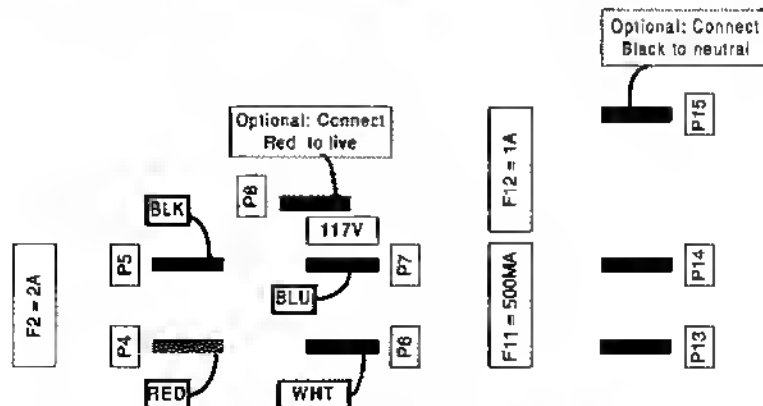

Figure 2: Main transformer connections and fuse values for 120V operation
2. Move the blue secondary wire from P14 to P7 and move the white secondary wire from P13 to P6 - see figure 2 below.